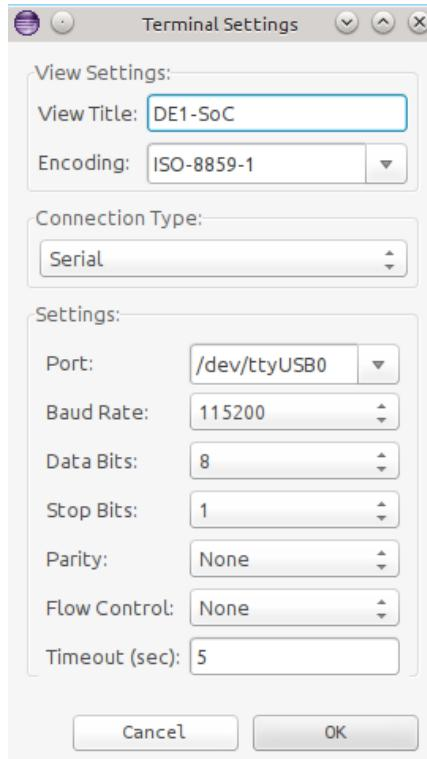

Figure 13-14. ARM DS-5 Serial Terminal Settings
65. Modify the serial terminal's settings to match those shown in Figure 13-14, then press "OK" to start the connection.